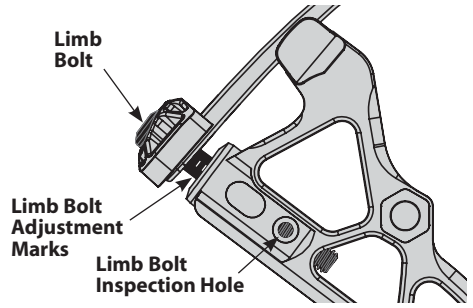

Figure 4: Draw Weight Adjustment (Core)
Draw weight on these models can be adjusted 30 pounds down from the bow's peak draw weight. For example, the bow is shipped at 70 pounds and the draw weight can be adjusted down to 40 pounds. The procedure is as follows (**see Fig. 4**):
1. Before adjusting limb bolts, note setting on limb bolt adjustment marks for future reference (See Figure 4).